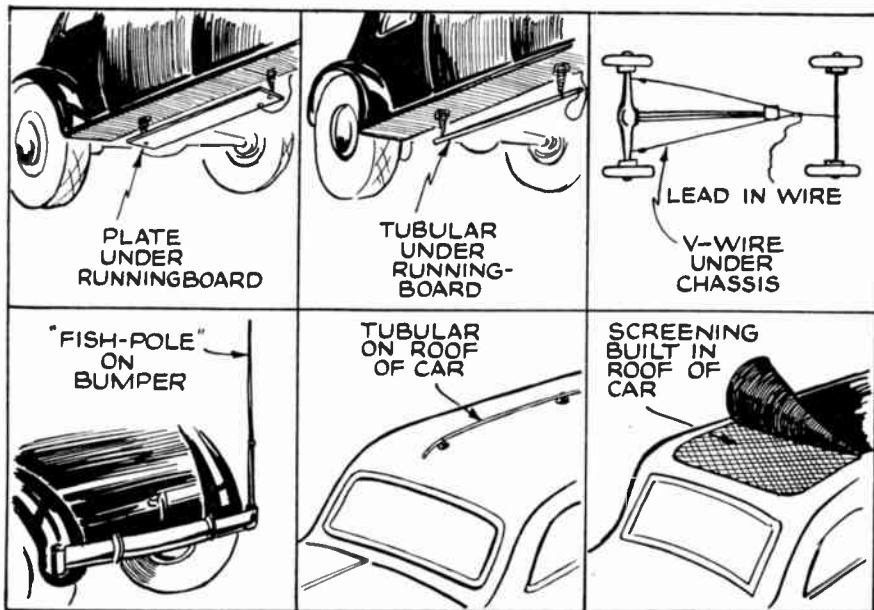

Fig. 37
(A) Practically any standard type of auto-radio antenna will give satisfactory results, if carefully installed. Some of the available types are: (1) Plate under one or both running boards; easy to install. (2) Tubular under one or both running boards; easy to install. (3) V-shaped wire under chassis; claim greater freedom from interference. (4) "Fish-pole" on bumper or running board; claim greater sensitivity. (5) Tubular on top of car; claim greater sensitivity. (6) Screening inside top of car; claim good sensitivity and complete concealment. Some makes and models of cars now come equipped with a built-in antenna of some type, generally No. 6. See Fig. 37.